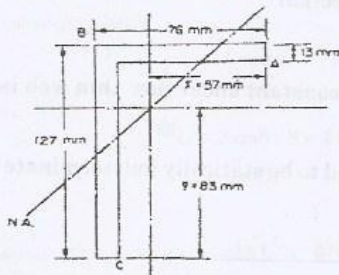

Figure 2
- b) The cross-section of a 2 m long cantilever beam is indicated in Fig. 2. The given beam is subject to its own self-weight of 27.5 kg/m where 1 kg = 9.81 N.
- Determine the bending moment M_x at the beam section adjacent to the fixed end and obtain an expression for the bending stress in the form $\sigma = Ay - Bx$. (4)
- Evaluate the bending stress at point B using the expression $\sigma = Ay - Bx$, and (4)
- Sketch the neutral axis on the cross-section and indicate its angle with the x-axis. The centroid of the section is the intersection point of the indicated horizontal and vertical axes. $I_{xy} = 1.186 \times 10^{-6} \text{ m}^4$. (5)